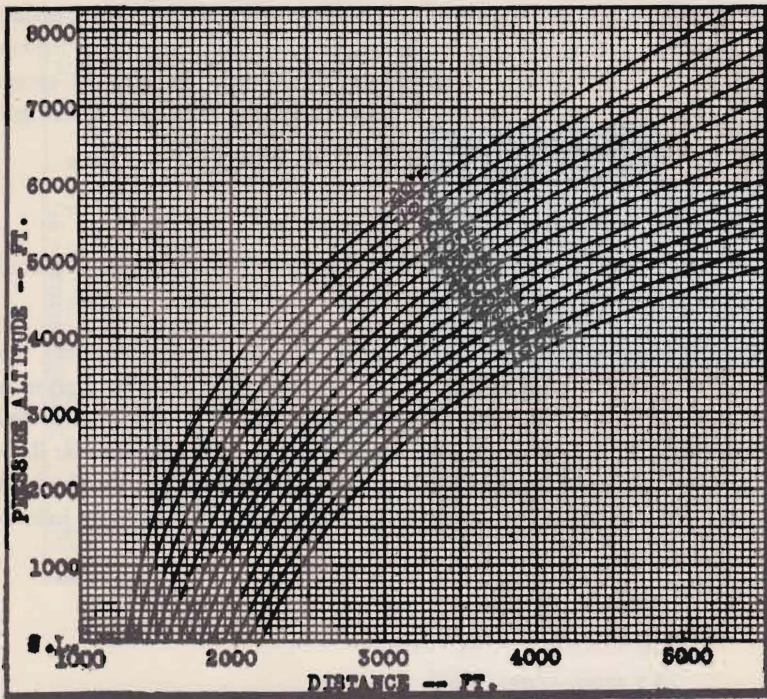

Figure 12—Take-Off Distance
37. Take-off distances at altitudes from sea level to 7000 feet are shown on Figure 12. Included in the distance given by these curves is that required to climb to 50 feet above the field at a predetermined airspeed of 73.5 mph as required for certification tests by Civil Air Regulations. The data from which these curves were derived was obtained during the CAA Certification Flight Tests conducted under the following conditions: